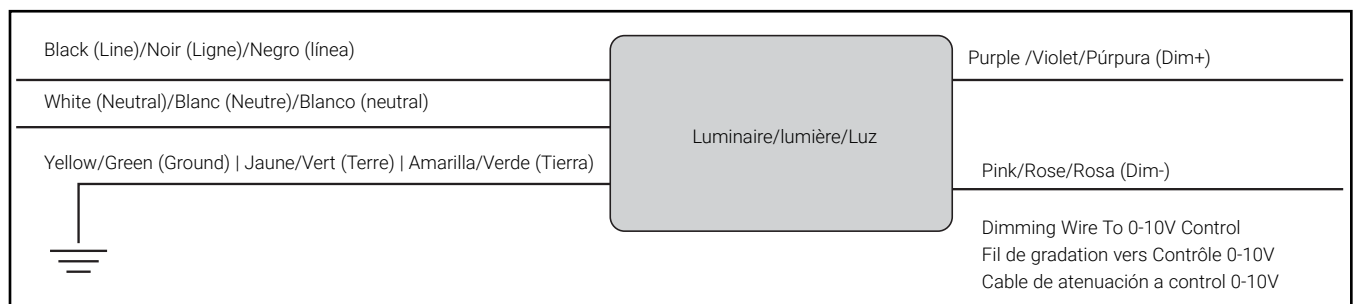

Figure 8.
- Make electrical connections according to code (Figure 8).